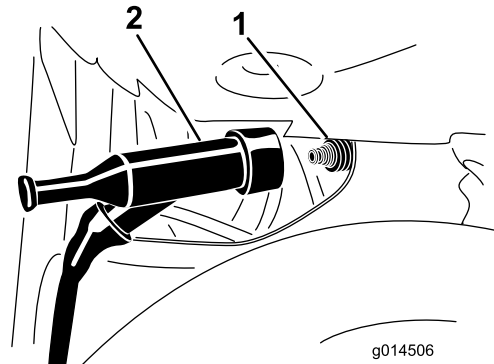

Figure 44
3. Pull the spark-plug wire off the terminal of the spark plug (Figure 44).
4. Push the spark-plug wire onto the terminal of the spark plug (Figure 44).